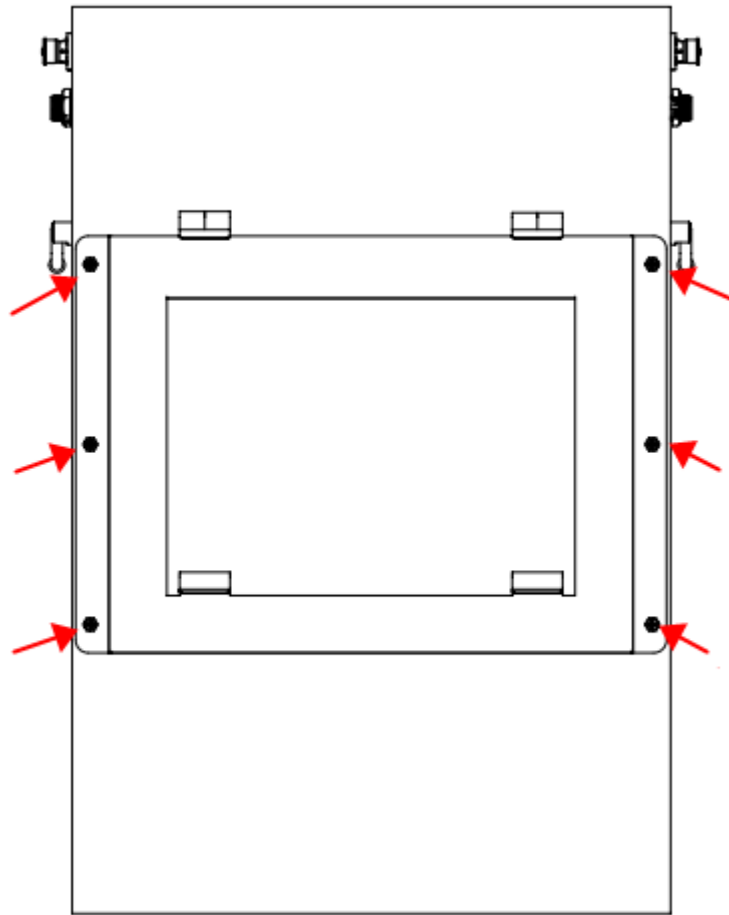

Figure 5-1
a) Use the 6 screws of M6*10 to fix the backplane to the back of the battery as shown in Figure 5-1.